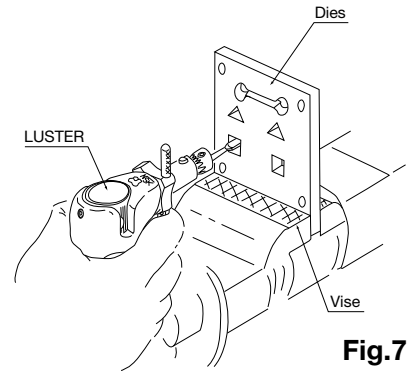

Fig.7
1. Finishing the complicated shapes and sizes. **(Fig.7)**